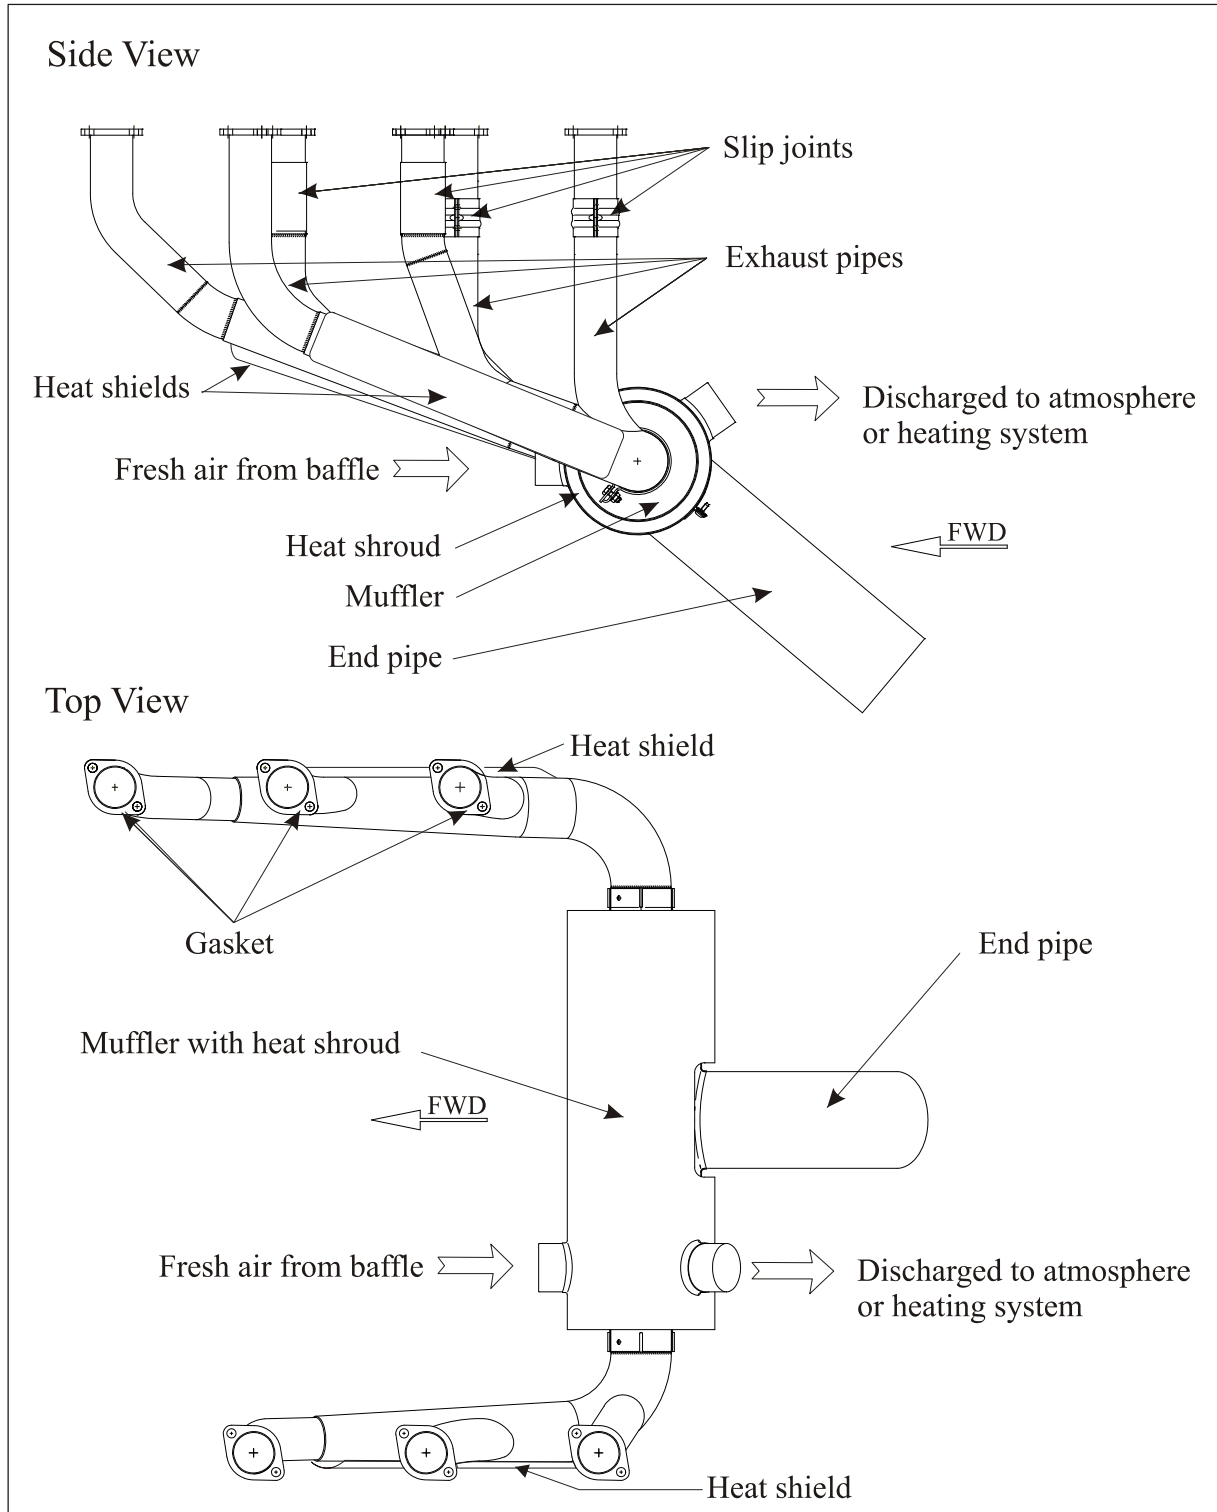

Figure 1
The MAP transducer is module 3 of Figure 4. The tubing (7) is routed from the module through a bulkead fitting (6) in the firewall to the engine (see also Figure 1).
The EXTRA 300LT is generally equipped with a Gomolzig 6 in 1 exhaust system (refer to figure 1) with integrated silencer (muffler).